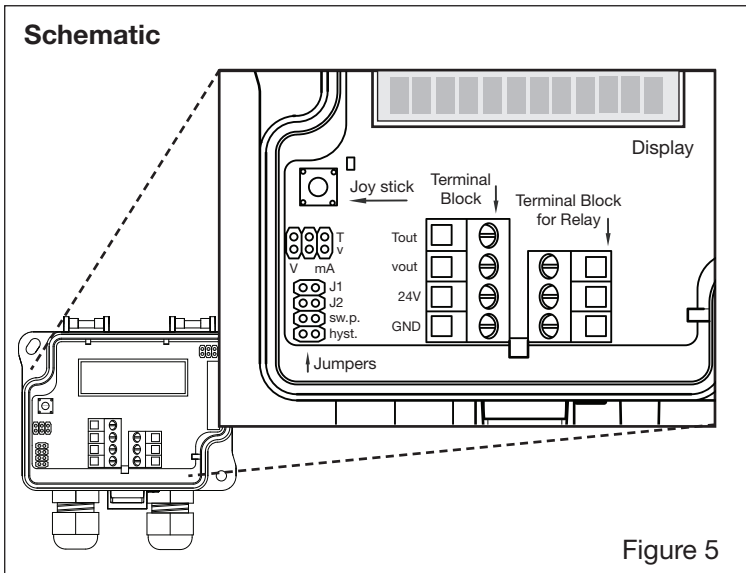

Figure 5
Entering configuration information into the STF Air Velocity and Temperature transducer is accomplished with the Joystick, see Figure 5, the Display, and Jumpers installed and removed from the set of three (3) or four (4) jumper pins, see Figure 5.
- 1) Install jumper to pins labeled sw.p. (Switching Point), see Figure 5.
- 1) Install jumper to pins labeled hyst. (hysteresis), see Figure 5.